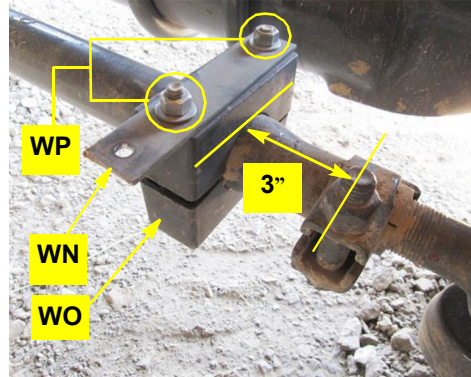

Figure 2b: WAS link rod mounting bracket installed
- b. Using hardware **WP** mount the rod link bracket/clamp assembly **WN/WO** as follows (Figure 2b):